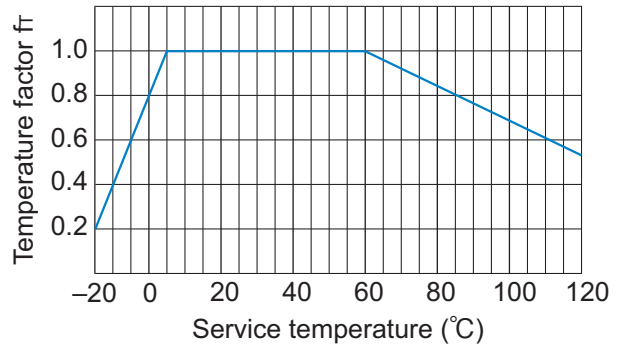

Fig.2 Temperature factor
If the temperature of the spline nut exceeds the normal temperature range, the seizure resistance of the nut and the strength of the material will decrease. Therefore, it is necessary to multiply the dynamic permissible torque (T) and the dynamic permissible thrust (F) by the corresponding temperature factor indicated in Fig.2. Accordingly, when selecting a spline nut, the following equations need to be met in terms of its strength.
$f_T$  : Temperature factor (see Fig.2)